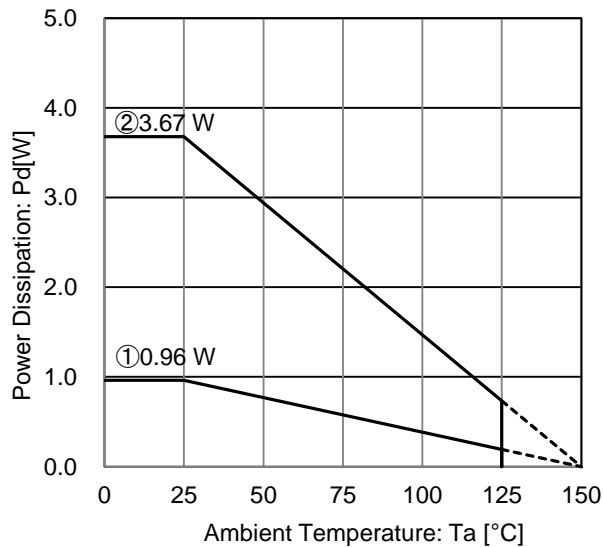
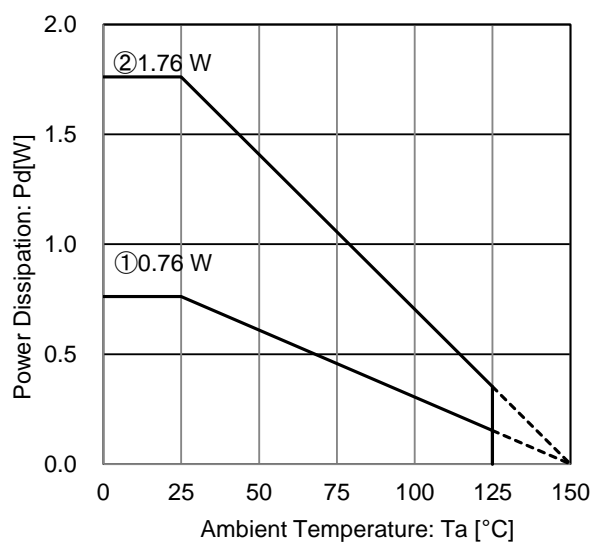

Figure 25. HTSOP-J8 Package Data
Figure 27. SOT223-4(F) Package Data
Refer to the heat mitigation characteristics illustrated in Figure 25 to Figure 27 when using the IC in an environment of $T_a \geq 25^\circ\text{C}$. The characteristics of the IC are greatly influenced by the operating temperature, and it is necessary to operate under the maximum junction temperature $T_{j\text{max}}$.
At $T_a = 125^\circ\text{C}$ with Figure 25 ② condition, the calculation shows that ca 71.5mA of output current is possible at 10.2V potential difference across input and output.
At $T_a = 125^\circ\text{C}$ with Figure 25 ② condition, the calculation shows that ca 85.8mA of output current is possible at 8.5V potential difference across input and output.
At Ta=125°C with Figure 27 ② condition, the calculation shows that ca 34.3mA of output current is possible at 10.2V potential difference across input and output.
At Ta=125°C with Figure 27 ② condition, the calculation shows that ca 41.1mA of output current is possible at 8.5V potential difference across input and output.